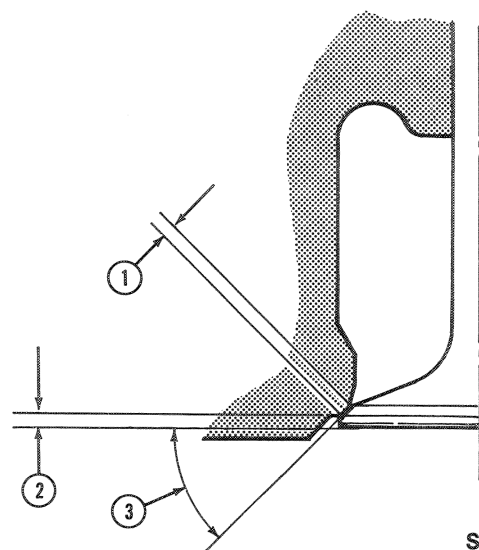
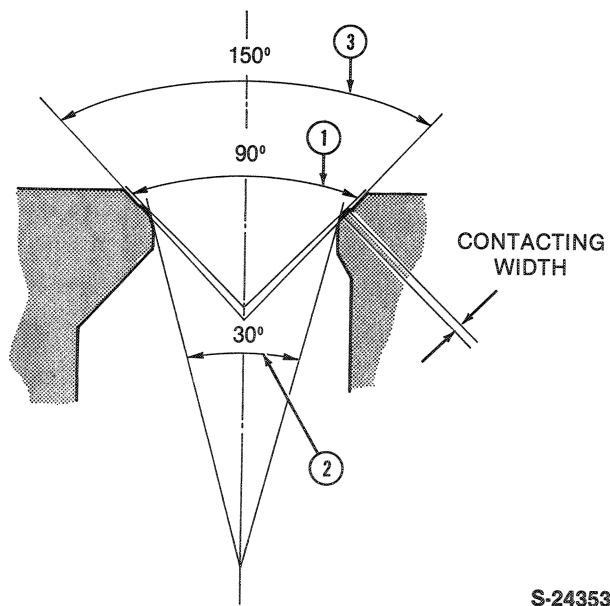

Figure 21
Figure 22
Valve seat grinding requires that the seat be ground to the correct width and properly positioned as shown in Figure 21.
2. Check the seat width, Figure 21. If necessary, use a 15° stone to lower the seat contact point and use a 75° stone to raise the seat contact point, Figure 22.